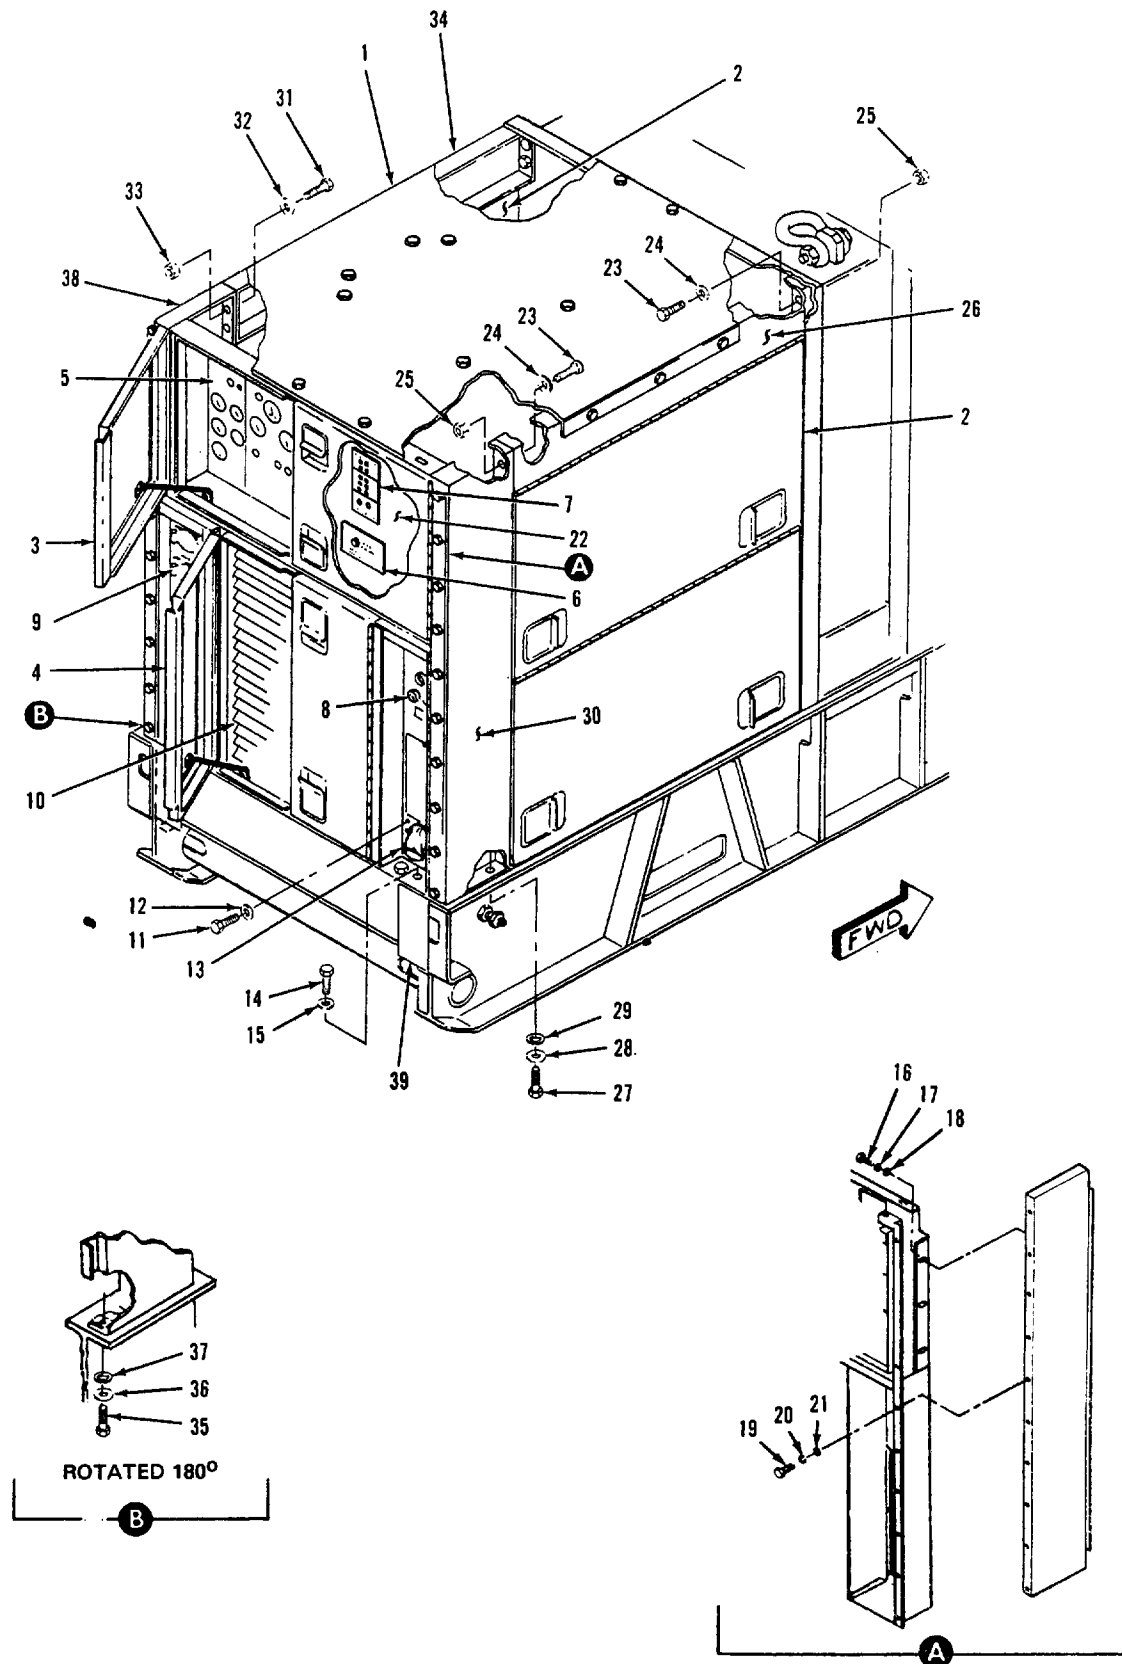

Figure 4-58. Replacement of Control Panel Supports
- a. Remove rear housing cover (1, figure 4-58) in accordance with paragraph 4-22.
- c. Remove control box assembly (5) in accordance with paragraph 4-43.
- d. Remove DC circuit breaker (6) in accordance with paragraph 4-37.
- e. Remove the fault indicator assembly (7) in accordance with paragraph 4-42.
- f. Remove the manual speed control (8) in accordance with paragraph 4-59.
- g. Remove the convenience receptacle assembly (9) in accordance with paragraph 4-78.
- h. Remove the air intake louvers (10) in accordance with paragraph 4-26.
- i. Tag and disconnect wires to plate and sleeve assembly (13). Remove screw (11) and lockwasher (12) to remove plate assembly (13).
- j. Remove bolts (14) and lockwashers (15) and remove filler panels (39).
- k. Remove screws (16 and 19), lockwashers (17 and 20), and washers (18 and 21) which secure control panel housing (22) to the control panel supports (30 and 38).
Legend for Figure 4-58.